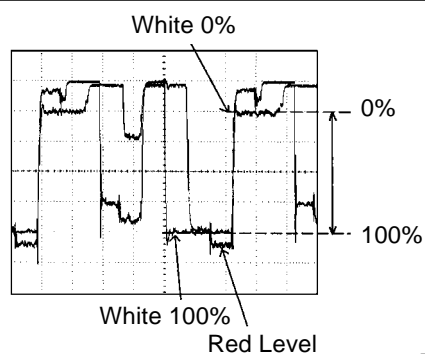

Fig. 2-3
6. Press the VOL. UP/DOWN button on the remote control until the red color level is adjusted to $120 \pm 5\%$ of the white level. **(Refer to Fig. 2-3)**
12. Press the VOL. UP/DOWN button on the remote control until the red color level is adjusted to $120 \pm 5\%$ of the white level. **(Refer to Fig. 2-3)**